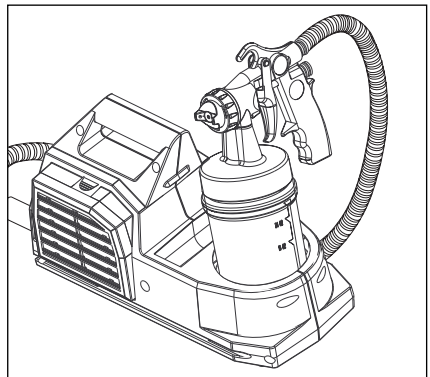

Figure 7
**Notice:** Gun may be rested in body of turbine when not in use. (Figure 7).